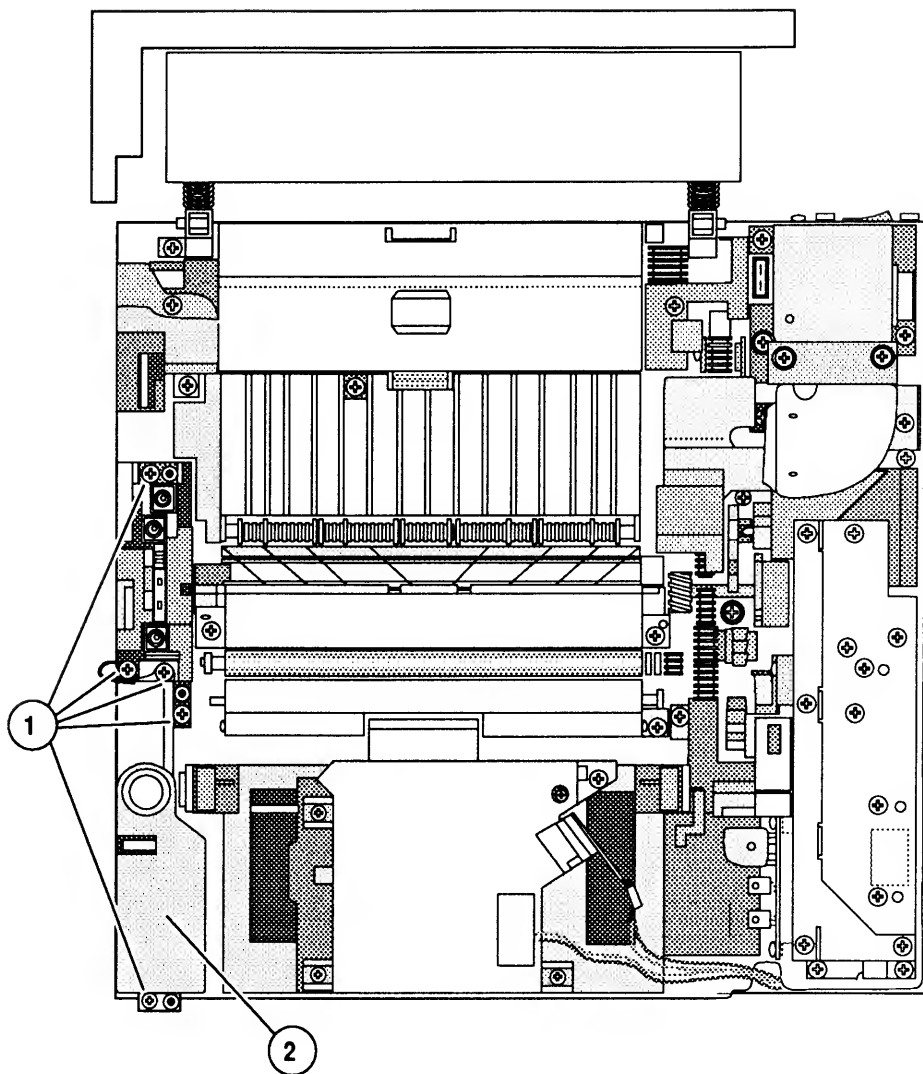

FIGURE 32
5. Remove the four Phillips screws (Figure 32, #1) that secure the high-voltage power supply assembly (Figure 32, #2) to the cassette holder.
2. Replace the high-voltage power supply screws. Use the silver-colored Phillips screw at the left side of the high-voltage connector assembly. Refer to Figure 32 if necessary.